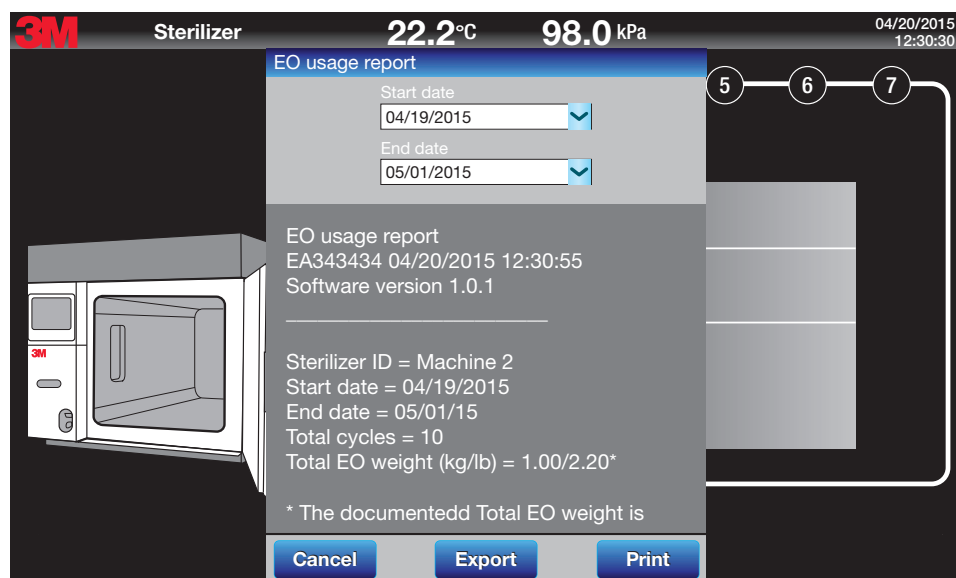

Figure 13.
Generate a report for ethylene oxide (EO) usage from the **Menu>Reports>EO Usage Report** screen. Generate an EO Usage Report for specific dates as illustrated in Figure 13. View the report on the display screen, print the report directly from the sterilizer, or export electronically to a USB drive. Figure 14 is an example of a printed EO Usage Report.